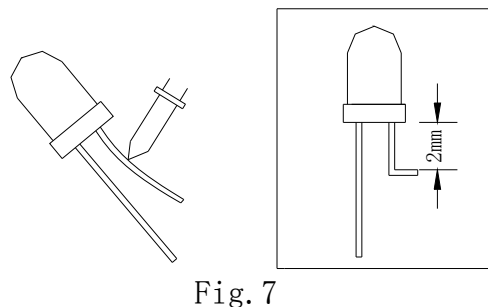

Fig.7
- 1) The lead should be bent at least 2mm away from the package. Bending should be performed with base fixed to a jig or pliers (Fig.7)